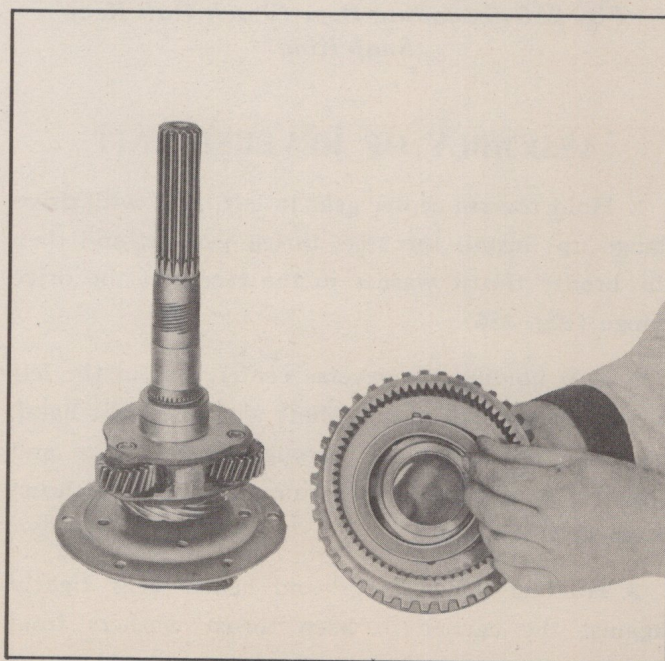

Fig. 260—Installing Reverse Clutch Release Spring
7. Install reverse clutch release flat spring and spring retainer on reverse internal gear on internal gear side (Fig. 260). Make certain spring is in recess. If retainer tips are misaligned preventing centering, use new retainer.